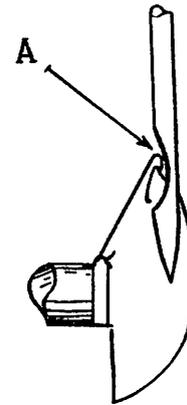

Figure No. 6
- D. Turn machine pulley about a half a turn. This will bring looper and needle into crossing position. Allow about one sixty-fourth of an inch ( $1/64''$ ) between point of looper and needle, do not allow point of looper to rub or strike needle. It will be necessary to slide looper in or out to attain proper clearance. See Figure No. 6, Page 9.
- F. NOTE: The point of the looper must pass through the center of the needle scarf. The scarf is the hollowed out section just above the eye of the needle, see Figure No. 6. Unless the needle bar has been moved or has slipped, the looper will automatically time up properly. See next paragraph for needle bar setting.